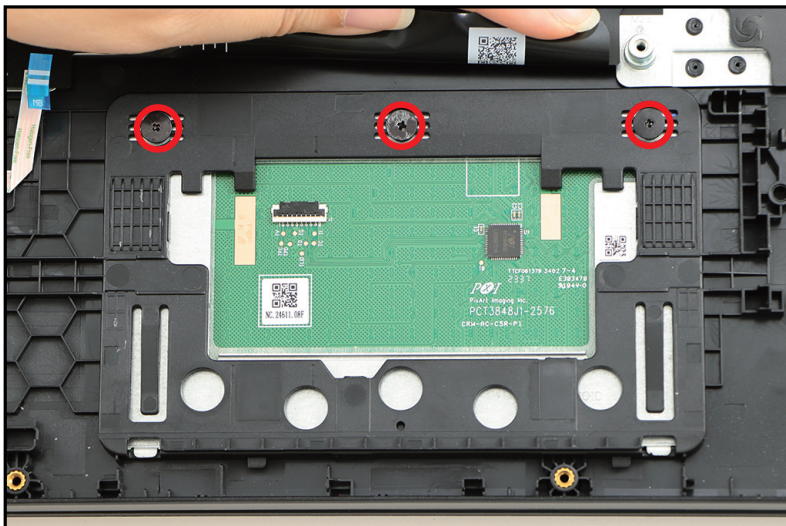

Figure 1-43. Touchpad Module Removal
5. Remove three (3) screws securing the touchpad module (Figure 1-43).